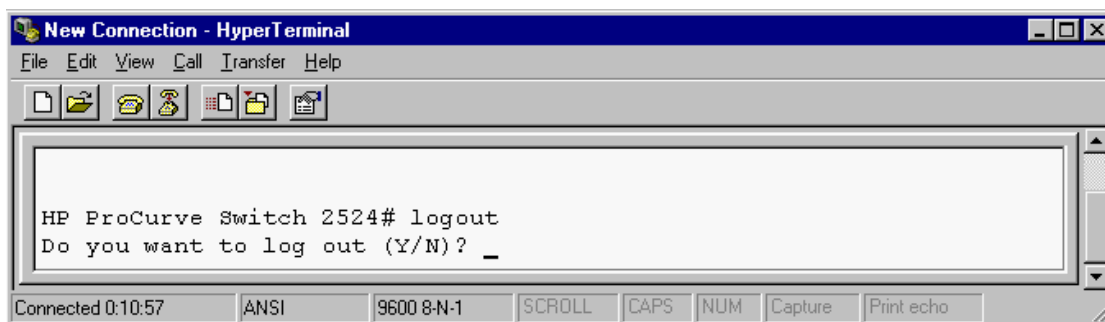

Figure 5-42 Logout
Step 18. Logout of the switch. To logout, press **Enter**, and then type **Logout** at the command prompt. Type **y** at the confirmation prompt, as shown in Figure 5-42